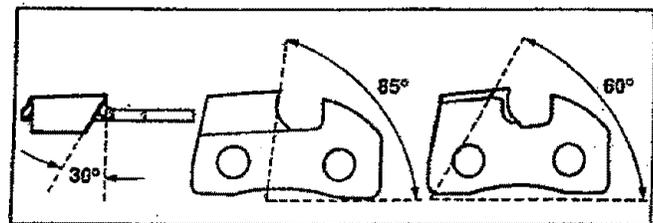

Figure 37
- File 91SG chain to meet specifications shown in Figure 37.
Maintain the proper hook angle according to the manufacturer's specification for the chain you are using. Improper hook angle will increase the chance of kickback which can result in serious personal injury. Figures 37 & 39.